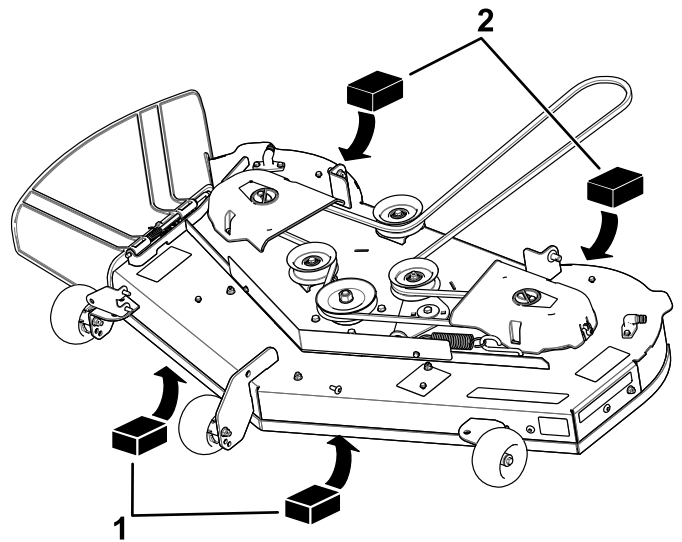
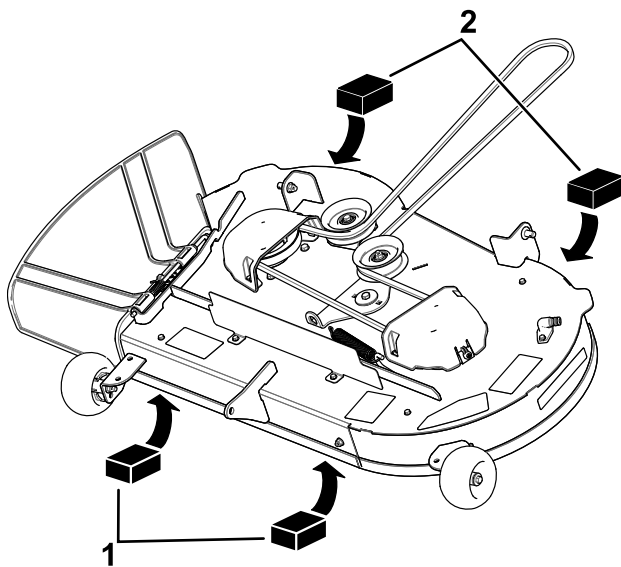

Figure 72
Figure 71
4. Place 2 blocks, each having a thickness of 6.6 cm (2-5/8 inches), under each side of the front edge of the deck but not under the anti-scalp roller brackets (Figure 71 or Figure 72).
5. Place 2 blocks, each having a thickness of 7.3 cm (2-7/8 inches), under the rear edge of the cutting deck skirt, 1 on each side of the cutting deck (Figure 71 or Figure 72).